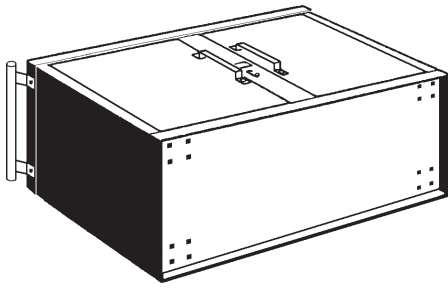
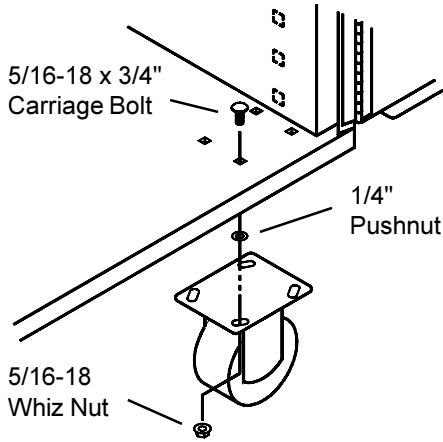

Figure 2. Caster Mounting Holes
Figure 3. Caster Mounting
2. Close the doors and lay the cabinet on it's back, onto the flattened shipping carton to prevent scratches (Figure 2). Mount the Swivel Casters on the end you mounted the Handle. Insert a Carriage bolt into a mounting hole, and push a Pushnut onto the bolt to hold it in place (Figure 3). Repeat this for the other three mounting bolts. Place the Caster over the bolts, then fasten with Whiz Nuts. Repeat this for the remaining Casters.